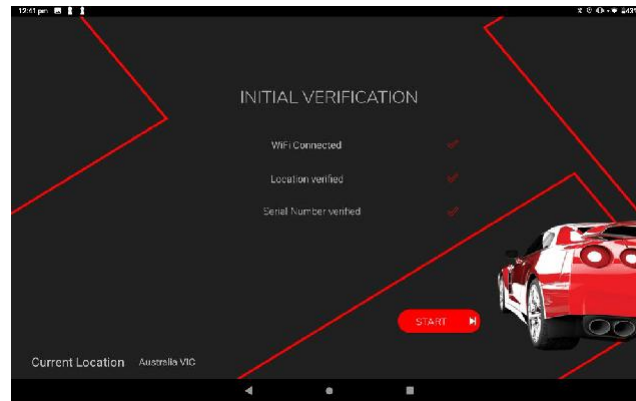

Figure 12
Step 8: The screen will display initial verification checks for Wi-Fi connection, location, and serial number. Once verified, press “START” (Figure 12).